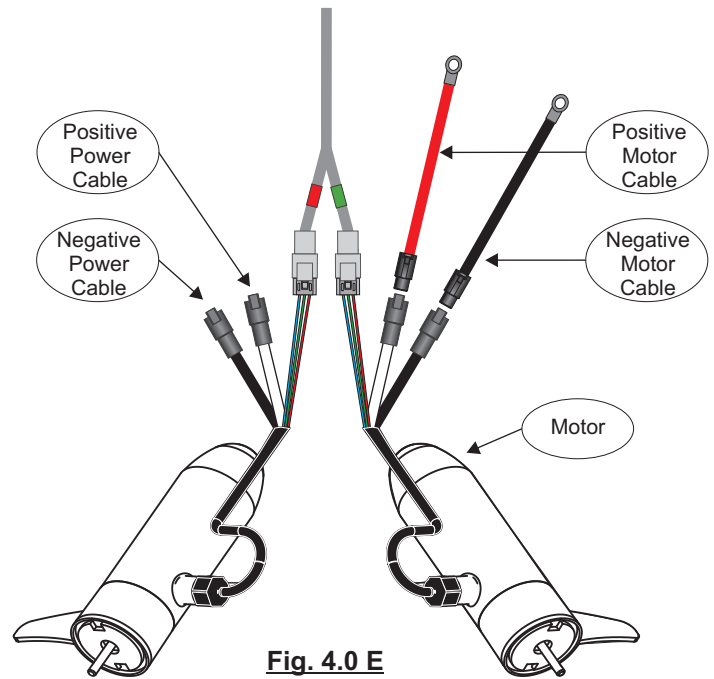

Fig. 4.0 E
- Connect the kit's positive motor cables (red) to the positive power cables (white) coming from the port and starboard motors. (See Fig. 4.0 E)